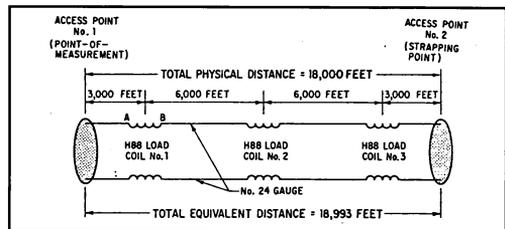

FIGURE 5
*This figure, 18993 feet in Figure 5 is readout directly by the 4912 — no calculation is required.
- In Figure 5, the total physical distance is $3,000 + 6,000 + 6,000 + 3,000 = 18,000$ feet. Generally, the physical distances are determined by "plant" records or other statistics. By measurement, the total physical distance = $R - L$ where,
Suppose the distance-to-fault readout is 15,500 feet. Figure 5 shows two loading coils in the first 15,000 feet of cable and the equivalent length of each coil is known to be 331 feet. To obtain the **true** distance-to-fault, the equivalent distance represented by the two load coils must be subtracted - $2 \times 331 = 662$ and, $15,500 - 662 = 14,838$ feet.